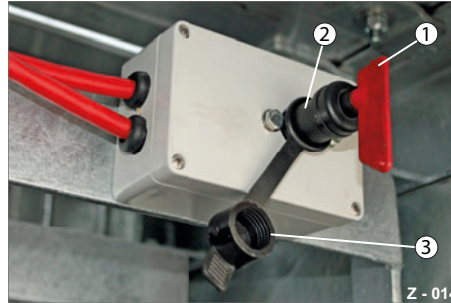

Abb. 20 Power supply from the towing vehicle
- ▶ Insert the plug-in switch (Abb. 20/1) into the socket (Abb. 20/2).
- ▶ Turn the plug-in switch (Abb. 20/1) to ON position.